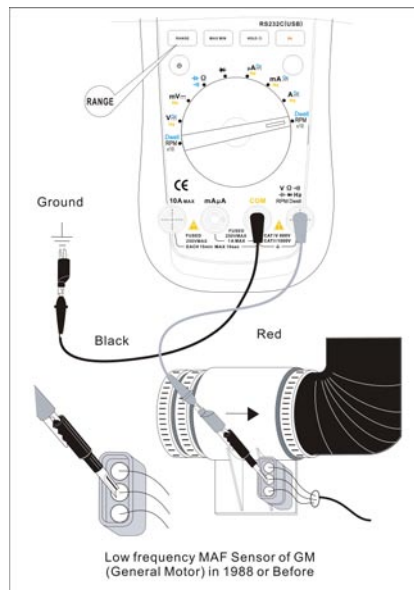

Figure 26
5. Mass Air Flow (MAF) Sensor (see figure 26)